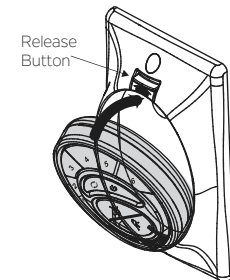

Fig. 29
**Step 1.** Insert the transmitter into the wall plate by inserting the bottom of the transmitter first and then pressing the top of the transmitter into the pocket. The transmitter will fully function from this location or you can remove the transmitter and use it as a hand held device. **(Fig.29)**